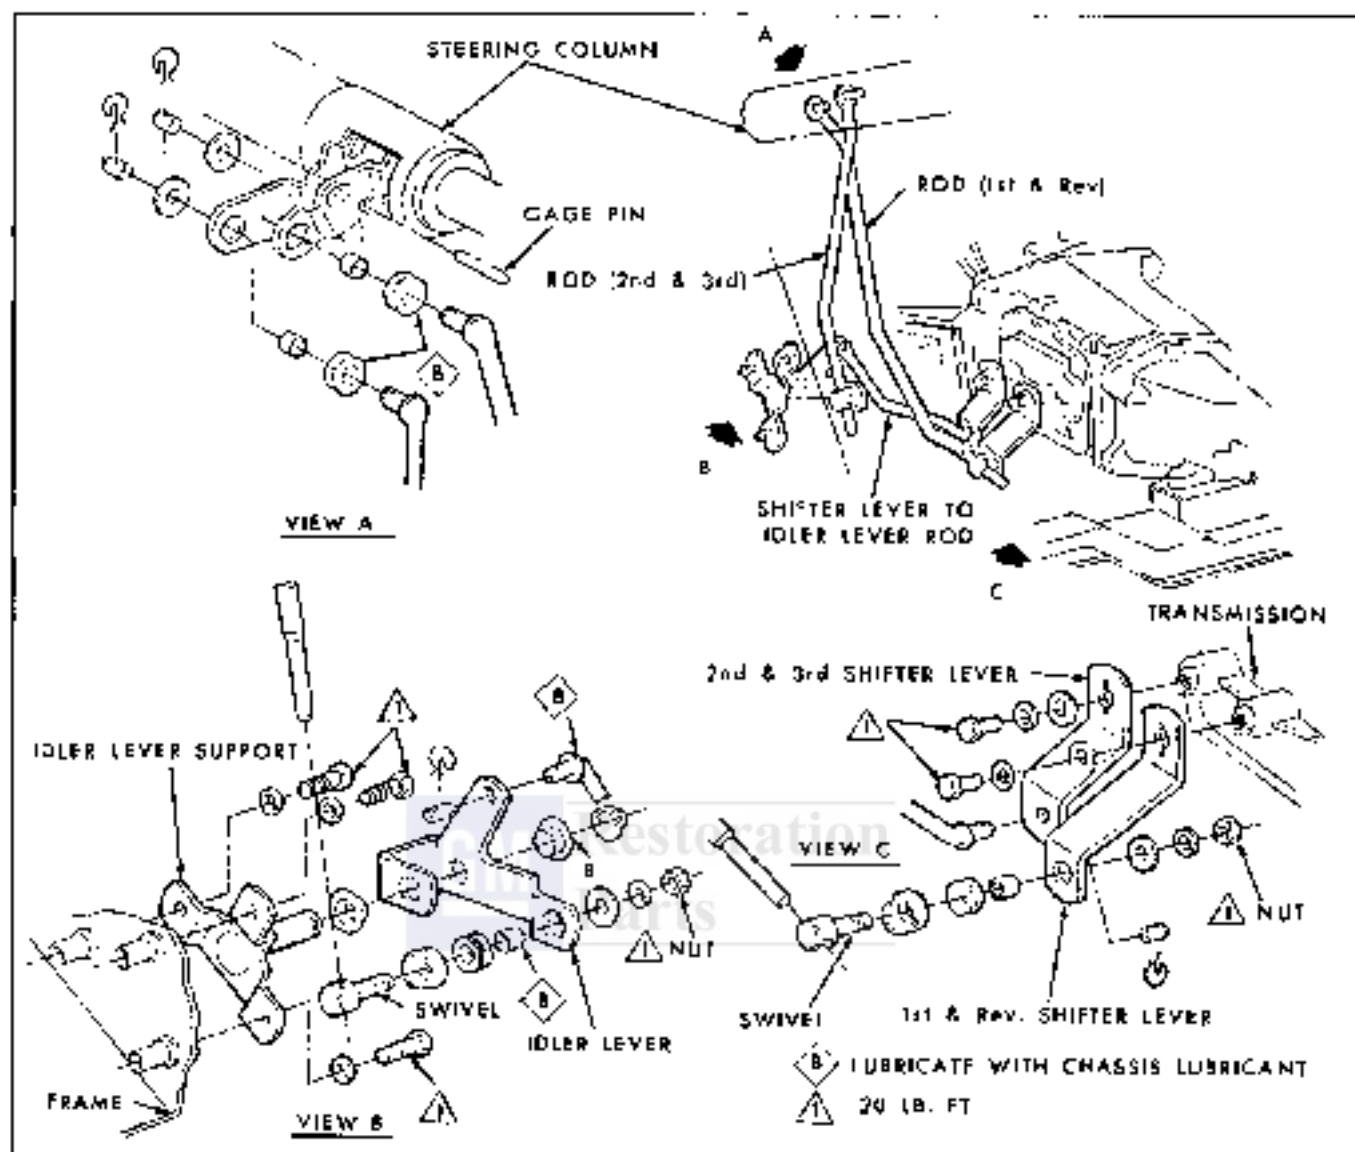

Fig. 7B-2 Firebird Column Shift Controls
3. Attach slide hammer J-2619. Using hammer, pull bushing and seal from extension housing (Fig. 7B-6).
5. Using tool J 6403-01 and soft hammer, tap bushing into place (Fig. 7B-7).
6. Install new seal, using tool J 6403-01 and collar J 6403-02 (Fig. 7B-8).